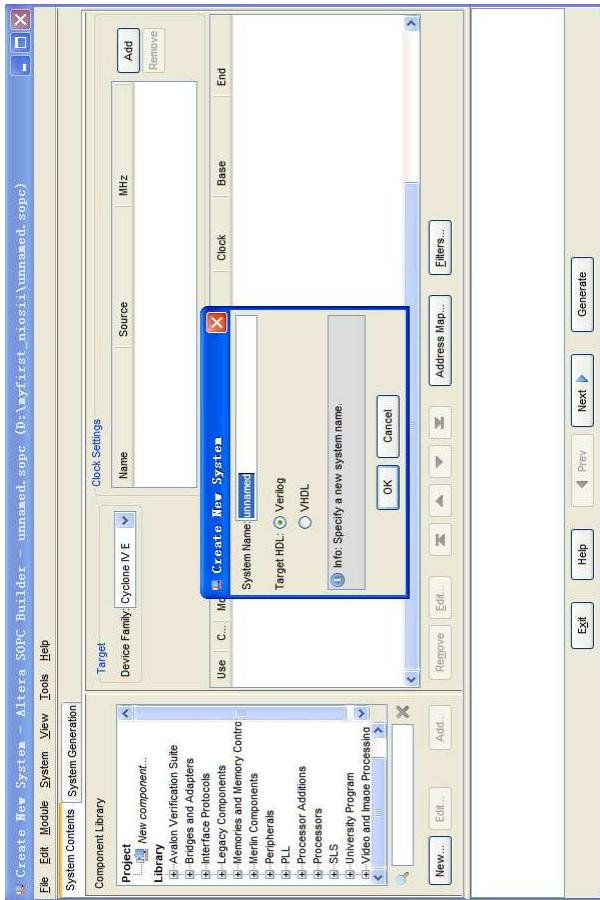

Figure 7-10 Create New SOPC System [0]
6. Rename System Name as shown in Figure 7-10 and Figure 7-11. Click OK and your will see a window as shown in Figure 7-12.